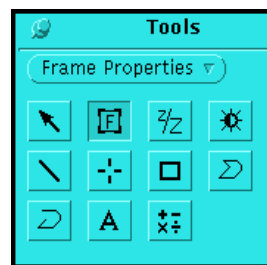

Figure 27. Frame Properties Menu
3. Position the pointer over the Frame Properties button and hold down the *right* mouse button until the menu shown in **Figure 27** appears.